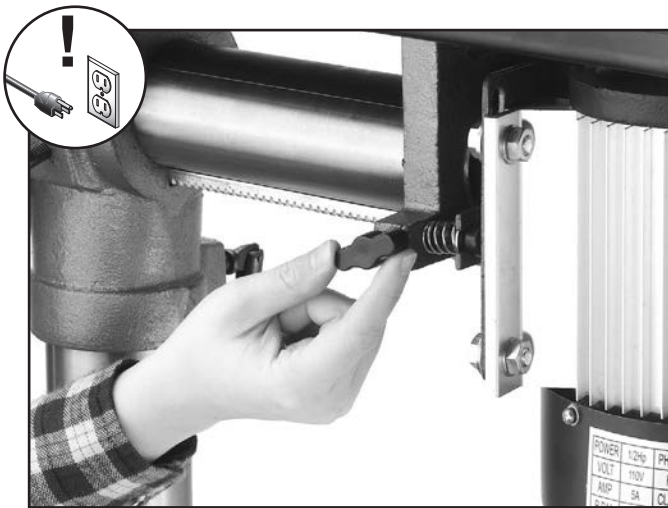

Figure 26. Loosening belt-tension lock knob (1 of 2).
2. Loosen belt-tension lock knobs (shown in **Figure 26**) on both sides of the headstock, so the motor is free to move.